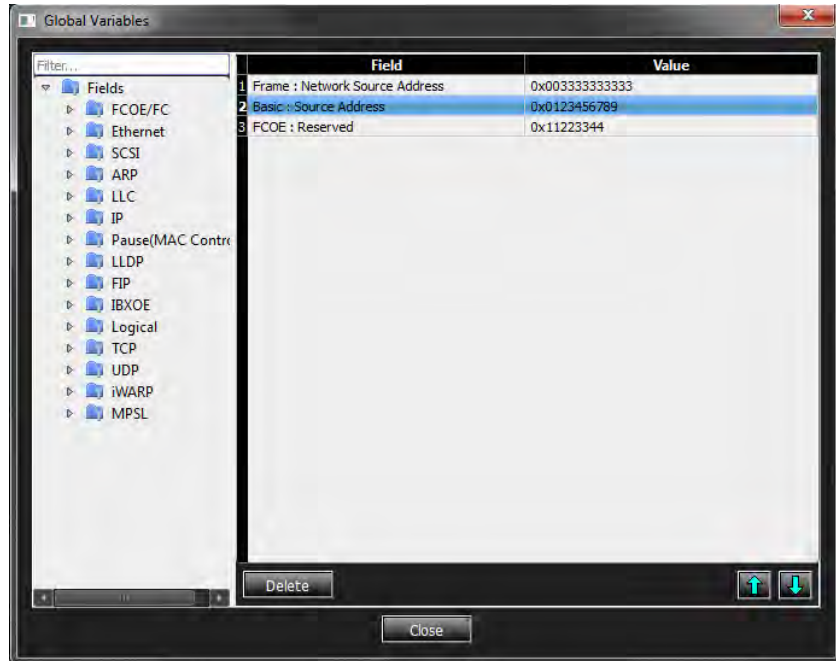

Figure 7.15: Global Variables Dialog Window
1. To change the definition of selected global variables, go to Batch Scenario Manager and click the **Global Variables** button. The Global Variables dialog window opens (Figure 7.15).